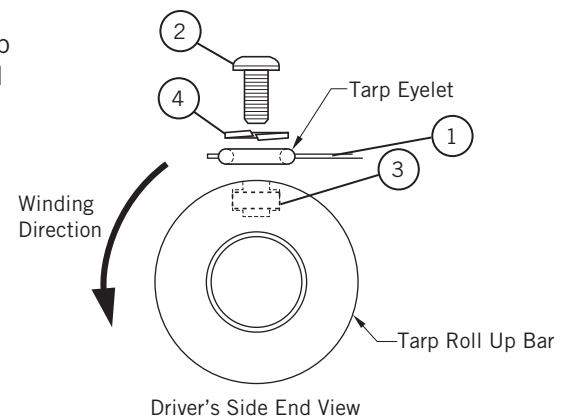

Figure 34-2
- 1) **Figure 34-2.** Pull the loose end of the tarp (1) over the roll up bar, winding from the topside. Make sure the tarp is centered from side to side.
- 3) Secure tarp (1) with 1/4-20 x 1/2 pan head (2), 1/4-20 square nuts (3), and 1/4 split lock washers (4).